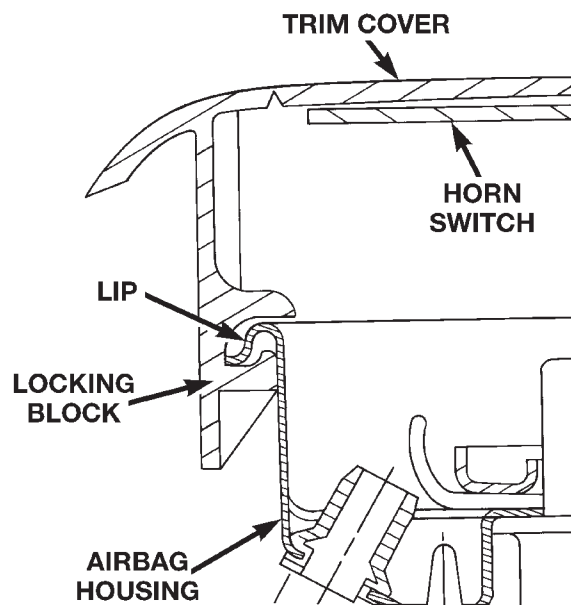

Fig. 8 Driver Side Airbag Trim Cover Locking Blocks Engaged
(1) Carefully position the driver side airbag module in the trim cover. Be certain that the horn switch feed and ground wires are not pinched between the airbag housing and the trim cover locking blocks.
(2) Engage the upper and lower trim cover locking blocks with the lip of the driver side airbag housing, then engage the locking blocks on each side of the trim cover with the lip of the housing. Be certain that each of the locking blocks is fully engaged on the lip of the airbag housing (Fig. 8).